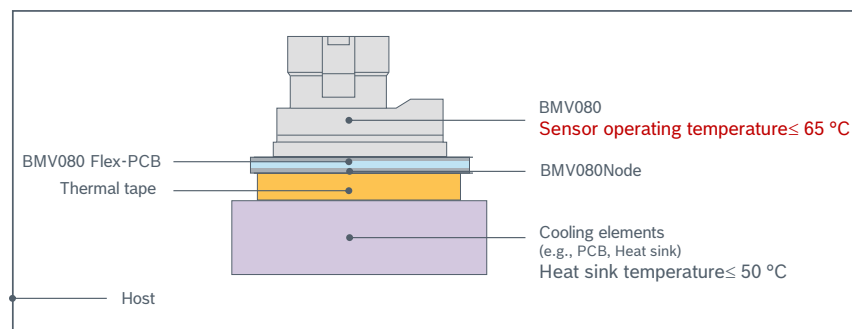

Figure 17: Typical thermal integration setup
- Figure 17 shows a typical thermal integration setup where the *lower surface of the BMV080 flex PCB* (a.k.a. BMV080Node) is attached to a cooling element (e.g., a heat sink) via a thermal contact (in this case, a thermal tape) and the heat sink itself is attached to the host